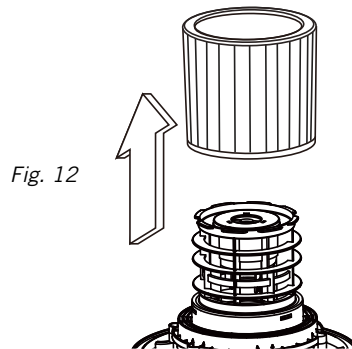

Fig. 12
19. With the removed power head in an upside down position, carefully remove the cartridge filter 19 from the filter cage. Fig. 12.